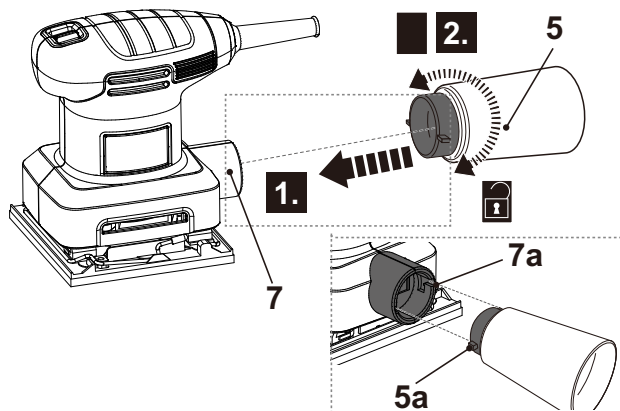

Fig. 12
- > Align the tongues (5a) with the grooves (7a) and then insert the vacuum adaptor (5) into the dust extraction outlet (7) all the way to the stop (Fig. 12, step 1).
- > Turn the vacuum adaptor (5) clockwise to secure it in place (Fig. 12, step 2).